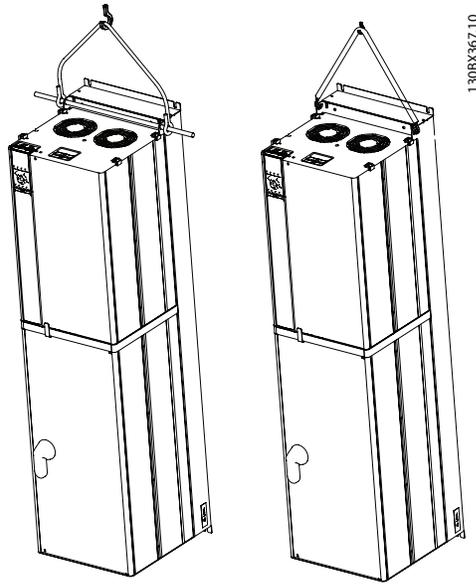

Figure 3.1 Proper Lifting Method
- Use a solid steel spreader bar for lifting. Slide the spreader bar through the two (2) lifting holes on the panel. Lifting rings are 0.59in (15mm) in diameter (see Figure 3.1). If VFD mounting screws interfere with the spreader bar, lifting hooks can be used instead of the lifting bar.